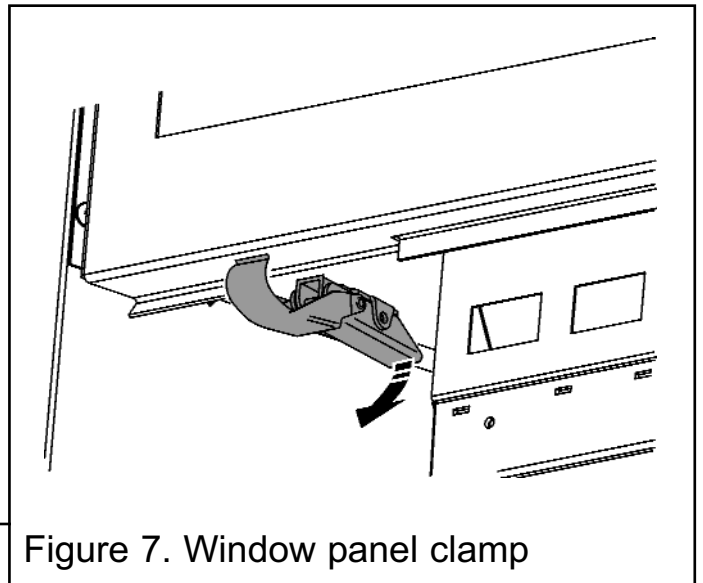

Figure 7. Window panel clamp
1. The ceramic fuel effect is packed inside the convector box. The window panel is secured at the bottom with two clamps. To release the clamps, hold at the rear and pull down (See figure 7).